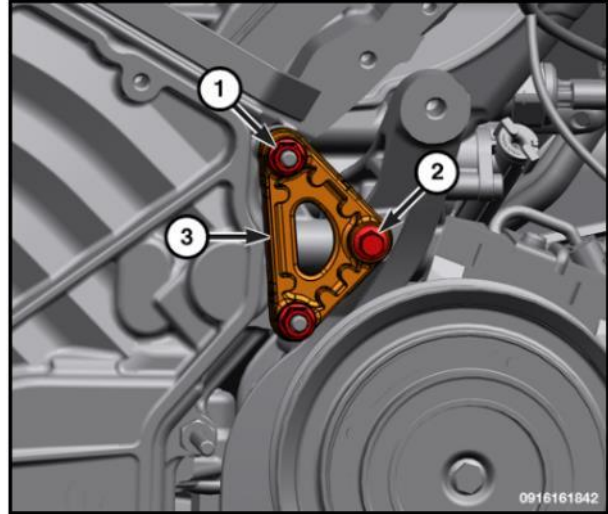

Figure 16 – A/C Compressor Bracket
23. Remove the two nuts (1) and bolt (2) from the small bracket (3) and remove the bracket (Figure 16).
36. Install the small bracket, nuts and bolt (Figure 16). Tighten to 11 N·m (8 ft. lbs.).